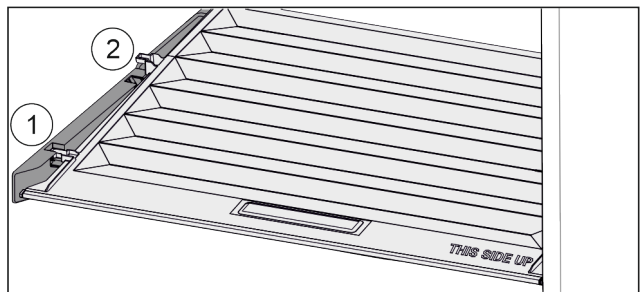

Fig. 134
- ▶ Pull the lid up at the front to the opening in the retaining parts Fig. 134 (1).
- ▶ Lift from the back and pull it up and out Fig. 134 (2).